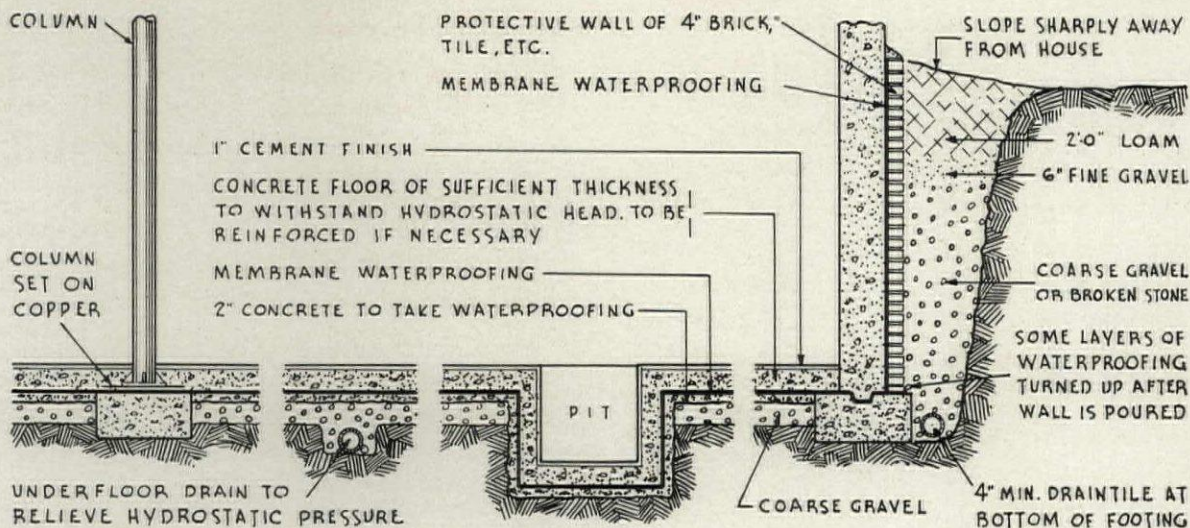

FIGURE 5—MEMBRANE WATERPROOFING PLACED ON THE WATERSIDE PROVIDES CONTINUOUS PROTECTION
*Membrane* waterproofing, applied to the waterside of walls and floors, provides a continuous membrane which seals the entire basement. (See Figure 5.) The membrane